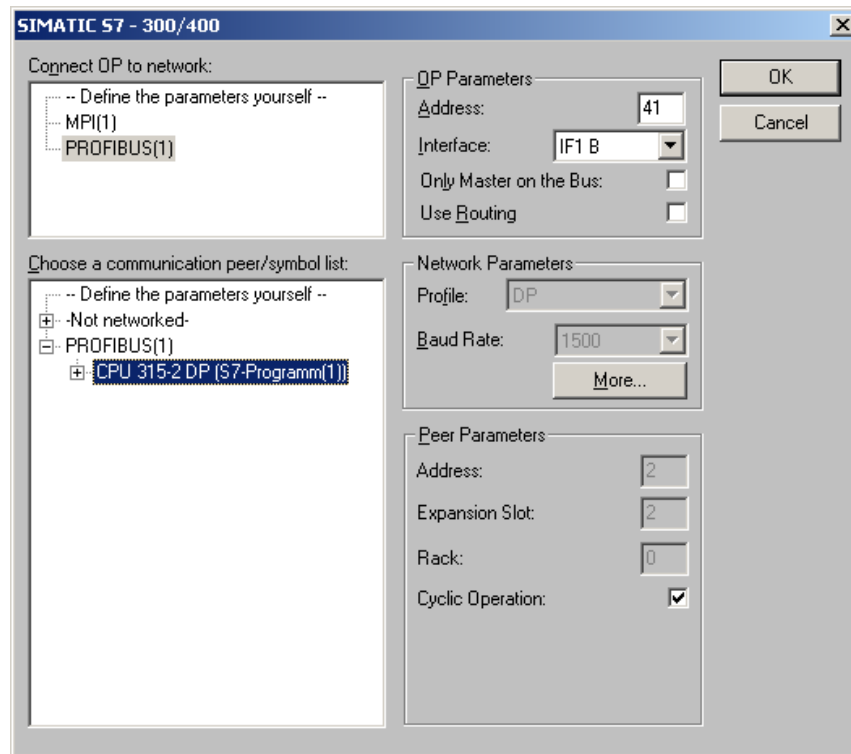

Figure 6-13 Operating panel connection to network and CPU – example
3. A dialog box opens in which to select the network and the CPU with which the operating unit should be connected. The network parameters are then assumed. Figure 6-13 illustrates an example configuration.